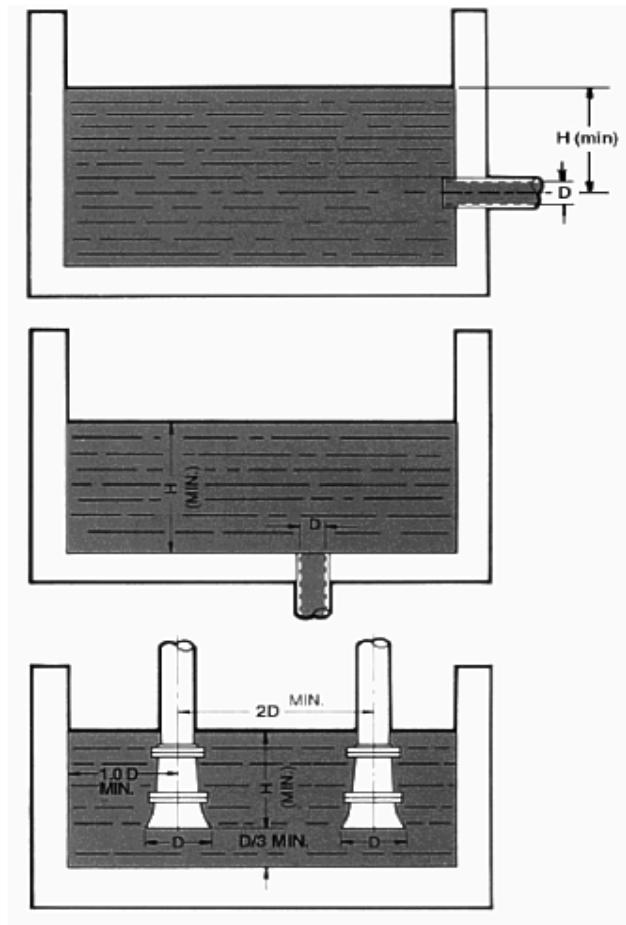

Fig. 5 Minimum suction pipe submergence and sump dimensions
For horizontal pumps, Fig. 5 can be used as a guide for minimum submergence and sump dimensions for flows up to approximately 5000 US gallons/min (315 litres/sec). For larger flowrates, refer to item 2 below.